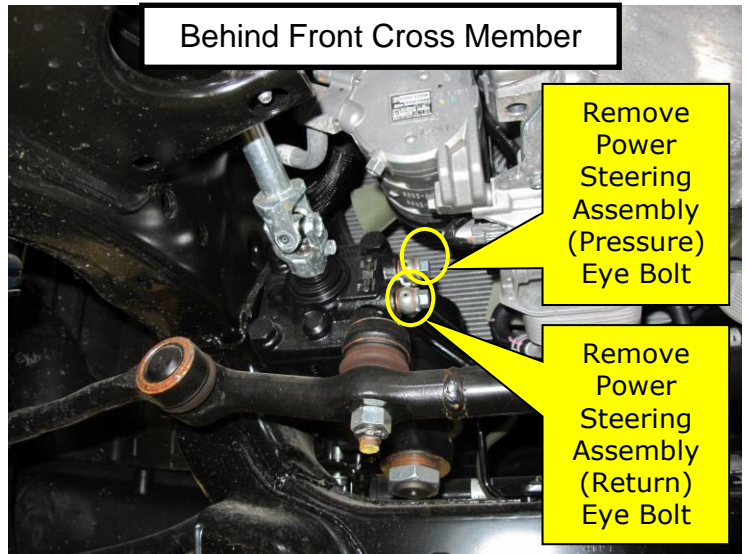

Figure 6
4. Remove Power Steering Hose Assembly **(Pressure & Return)** eye bolts (Figure 6).